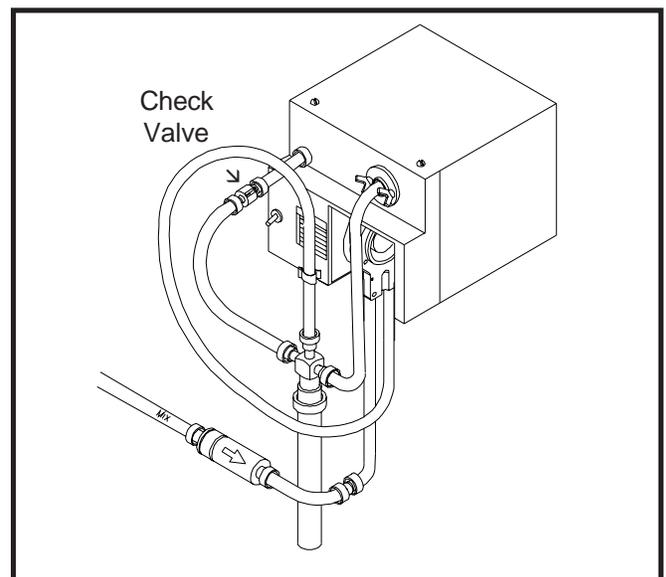

Figure 6
8. Reassemble both hose assemblies per the diagram (Fig.6). Lubricate the pressure control manifold oring with sanitary lubricant before assembly. Reconnect assemblies to the pump and discharge hose per the diagram, using the clamps, locking plate washer and wingnuts.